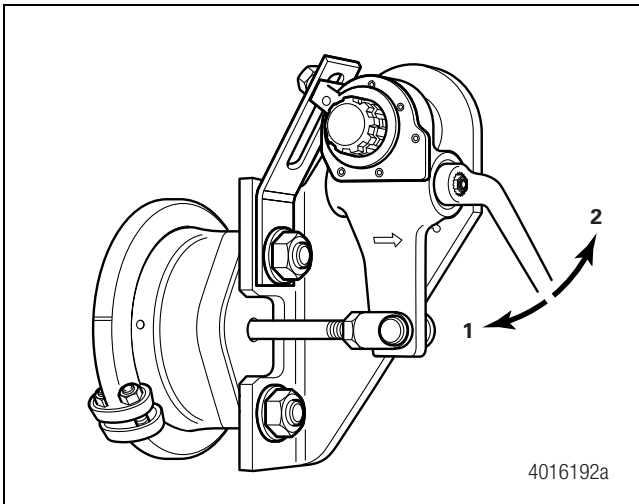

Figure 7
10. Adjust the S-ASA by rotating the hex nut on the S-ASA clockwise (1) until the brake lining touches the brake drum, then back-off by rotating the hex nut a 3/4 turn counter-clockwise (2). Backing-off the hex nut will produce a loud clicking noise. Figure 7.